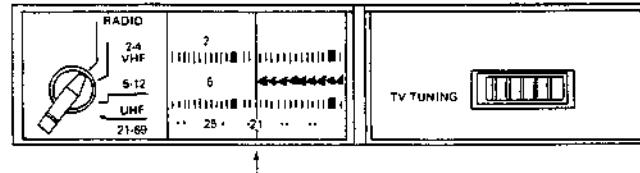

Fig. 28
2. By turning TV tuning knob, fit figure "4" to be printed on indicator film to indicator line of channels (Fig. 28) and receive 4CH broadcasting by adjusting sub-volume R31.